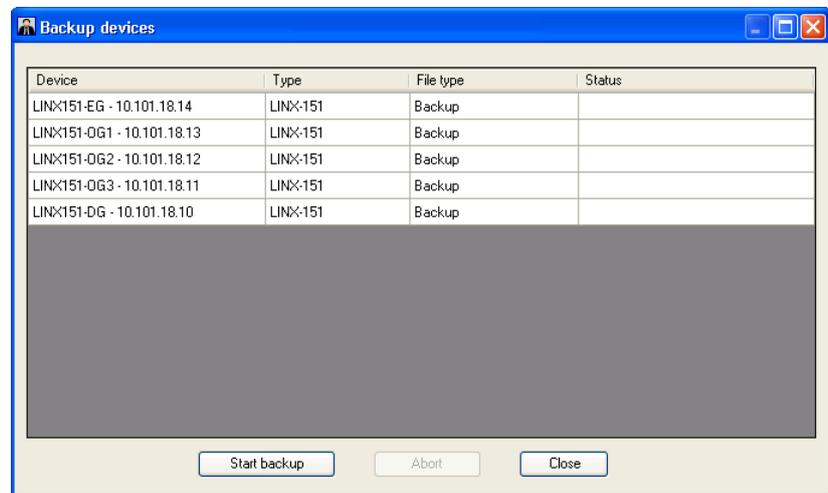

Figure 203: Backup Devices Dialog
4. The **Backup devices** dialog opens (see Figure 203). To start the process, press the **Start backup** button. During the backup the **Status** column is updated with current information.